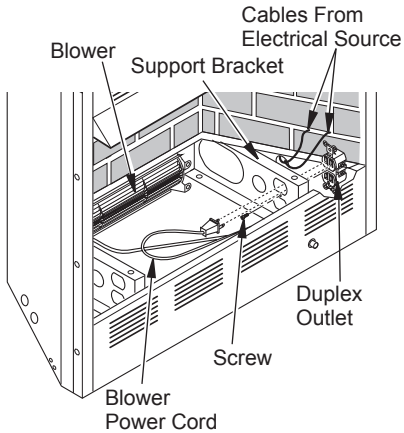

Figure 9 - Routing Blower Accessory Power Cord for Built-In Installation
4. Route wires from electrical box through hole in side of heater and hole in support bracket (see Figure 9, page 9).